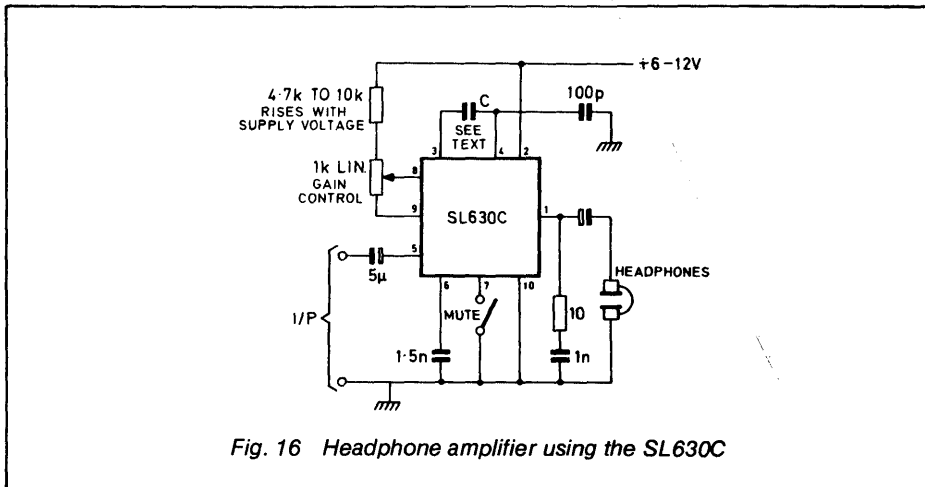

Fig. 16 Headphone amplifier using the SL630C
To maintain HF stability — particularly on negative half-cycles — the output (pin 1) should be decoupled by a 1,000pF, low series inductance, capacitor placed directly between pins 1 and 10 (8) with leads cut as short as possible. This component must be on the integrated circuit side of the output coupling capacitor. At high supply voltages and/or low temperatures 10 ohms must be placed in series with this capacitor and 100pF connected from pin 4 to earth. The output is coupled to its load with a capacitor of a low impedance relative to the load at the lowest frequency to be used. The load may be resistive or reactive and, for maximum power output, should lie on the load/supply voltage line. *Any higher value of load impedance is quite safe but the device will over-dissipate and eventually destroy itself by overheating if the output is short-circuited.* The optimum load therefore, at any rate with supplies of over 9V, can be regarded as a safe minimum. The circuit shown in Fig. 16 which shows the SL630C used as a headphone amplifier, may also be used with loudspeakers having suitable impedances. The distortion is about 0.5 per cent at full output.
Gain control is applied to pin 8, (7) which has an input impedance of 3.6 kilohms. It must be appreciated that even with full gain control the input cannot exceed 50mV rms without clipping so that at high control levels the output level is limited. The AGC characteristics will vary with temperature but, as shown in Fig. 16 a potentiometer to give manual gain control can be connected to the internal bias point at pin 9 which provides a temperature-compensated reference at the voltage at which gain control commences. This reference pin is omitted on the SL1630C. Pin 10 (8) is the signal earth and negative power supply connection.